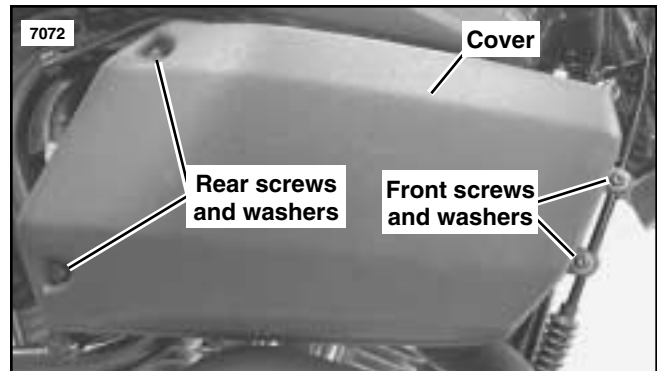

Figure 3. M2 or S3 Stock Air Cleaner Cover
4. See Figure 3. Remove both front screws and nylon washers.